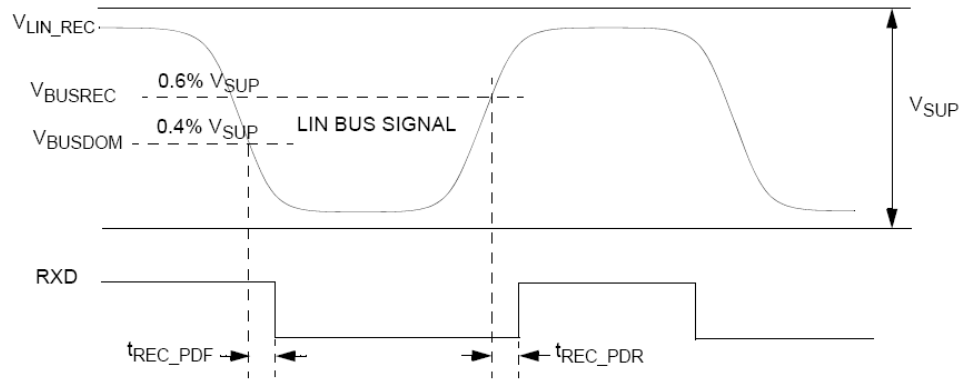

Figure 8. LIN Receiver Timing
35.  $V_{SUP}$  from 7.0 to 18 V, bus load  $R_{BUS}$  and  $C_{BUS}$  1.0 nF / 1.0 k $\Omega$ , 6.8 nF / 660  $\Omega$ , 10 nF / 500  $\Omega$ . Measurement thresholds: 50% of TXD signal to LIN signal threshold defined at each parameter. See Figure 5 and Figure 8.